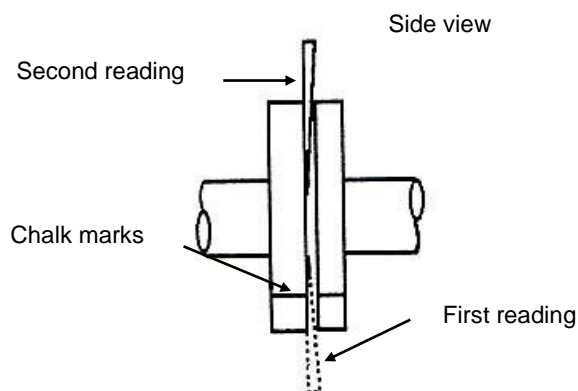
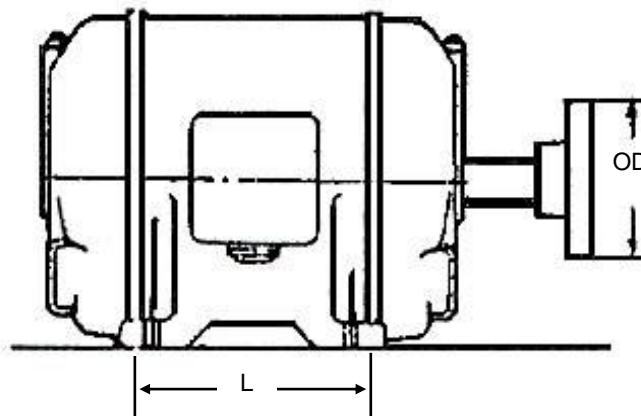

FIG 31.
FIG 32.
For angular alignment (viewed from the side) (Fig 31) for a pin and bush coupling, a taper gauge / feeler gauge is used to measure the error between the front faces of the coupling.
- Measure the gap at the top and the bottom between the two front faces of the coupling with a taper gauge/feeler gauge. (Fig 31)
- Measure the outside diameter (OD) of the coupling.
- Measure the centre distance between the clamping down bolts “L”. See Fig 32 on the next page.